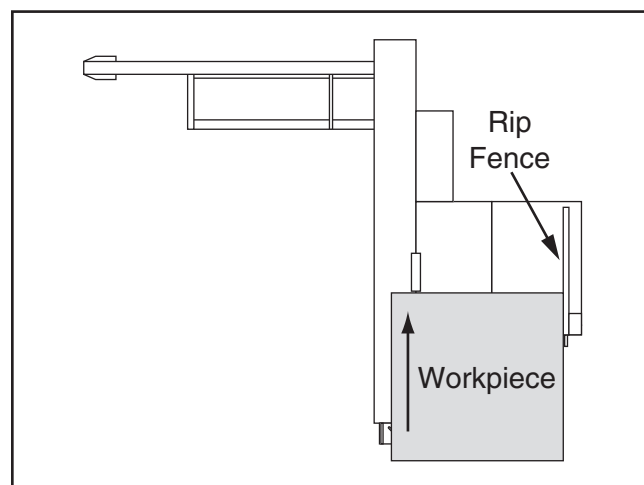

Figure 101. Traditional rip cut with rip fence.
This saw also has the capability of rip cutting smaller boards, using the machine as a traditional table saw (see **Figure 101**). Smaller, lighter boards are easier to slide across the stationary cast-iron table surface to the right of the saw blade.
9. Load workpiece onto table saw. Setup should look similar to **Figure 101** on **Page 51**.